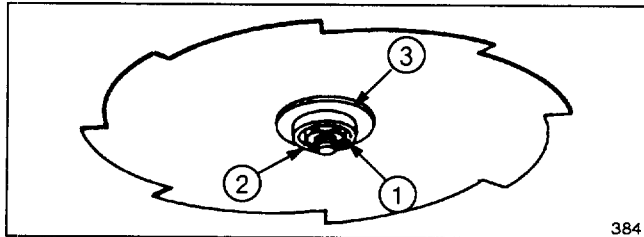

Figure 4
## INSTALLING OPTIONAL CUTTER BLADE (Figs. 4 & 5)
5. Insert cotter pin through hole in shaft and wrap ends around shaft (Fig. 4).